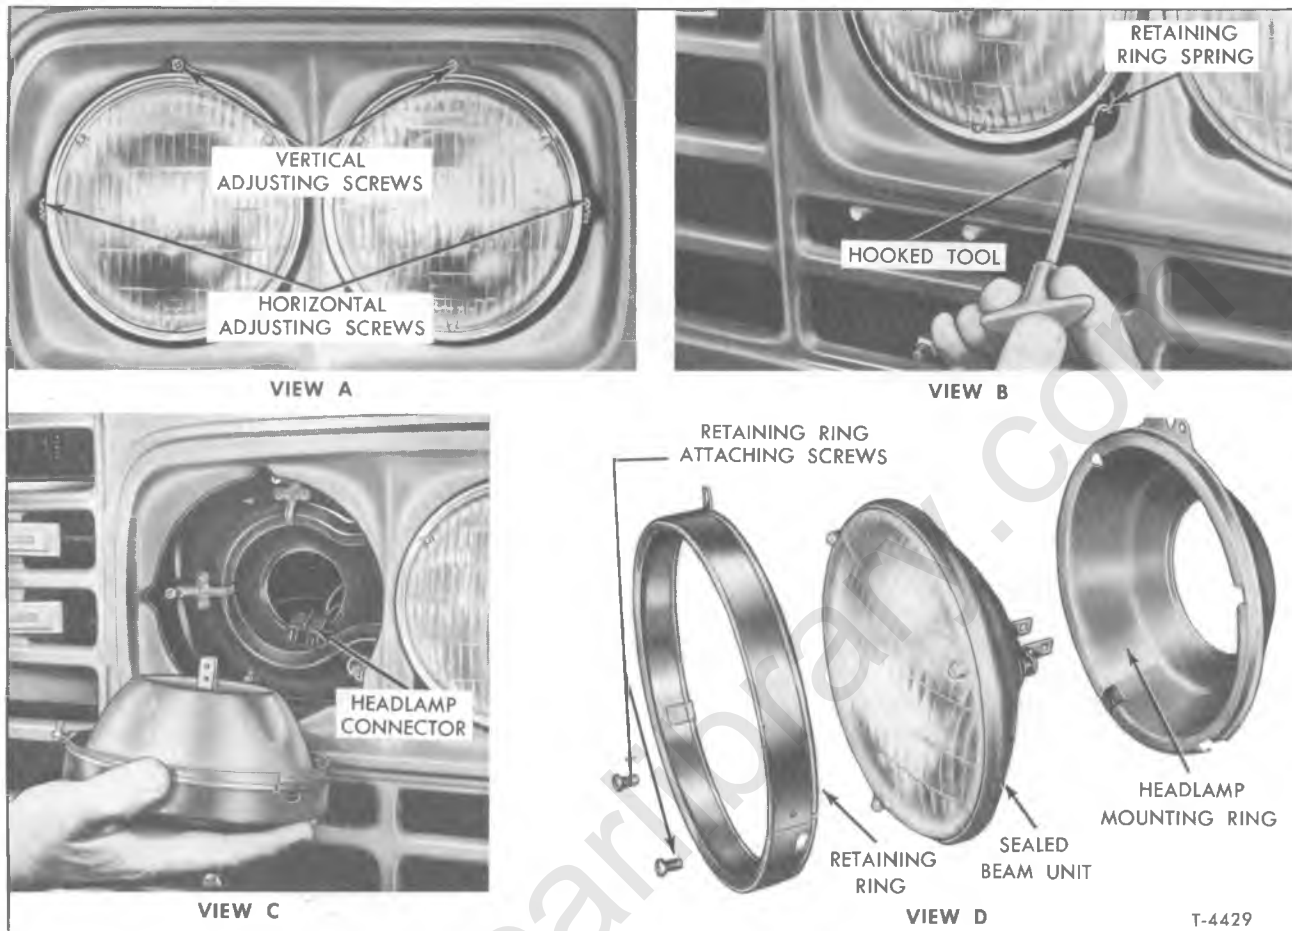
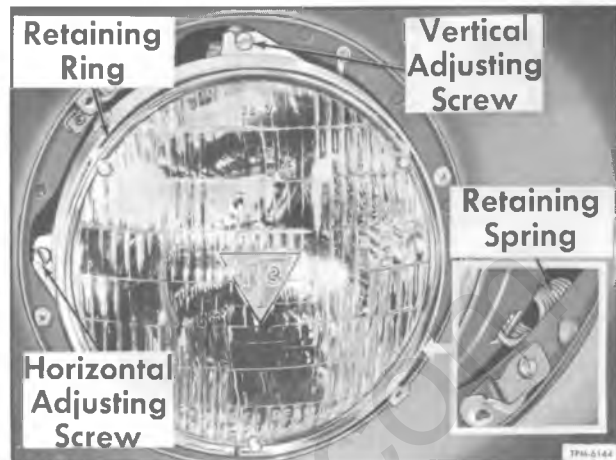

Figure 12—Dual Sealed Beam Unit Replacement
Figure 13—Single Sealed Beam Unit Replacement
adjusted so the high intensity zone of the light beam is just to the right of the headlight center and just below the headlight level at 25 feet. To obtain correct adjustment, beam adjustment should be made with the vehicle loaded with the normal average load it will be carrying during the majority of its operation. Tires should be uniformly inflated to recommended pressure when adjusting headlight beams. Beam adjusting screws are identified in View A, figure 12, for dual units and in figure 13 for single units.
Removal (Fig. 12)
Installation (Fig. 12)
##### Removal (Fig. 13)
2. Remove two screws which attach headlamp retaining ring to mounting ring. Using a hooked tool, release retaining spring from slot in retaining ring (inset, fig. 13). Swing bottom of retaining ring out and disengage from retaining clip near top.
##### Installation (Fig. 13)
4. Using a hooked tool, pull out on retaining spring and engage in slot near bottom of retaining ring (Inset, fig. 13).